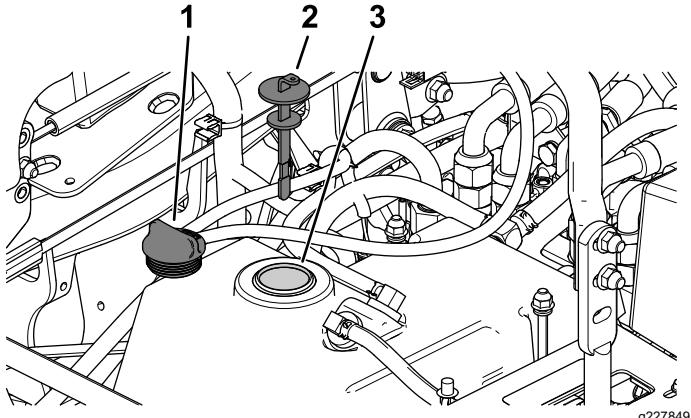

Figure 69
- Remove the hydraulic-tank cap (Figure 69).
- Remove the dipstick and wipe it with a clean rag (Figure 69).